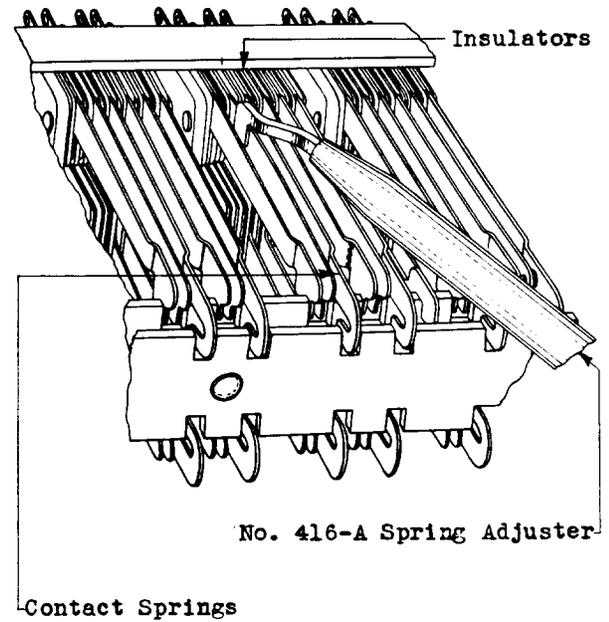

Fig. 12 - Method of Tensioning Contact Springs
(2) Contact Spring Tension If the tension of the contact springs is not satisfactory, correct it by using the No. 416-A adjuster as follows. Place the adjuster on the front end of the spring, but back of the contact, and then slide it back to a point approximately 1/4" from the spring assembly insulators as shown in Fig. 12. Adjust the spring slightly to the right or left as required, exercising care not to disturb adjacent springs.